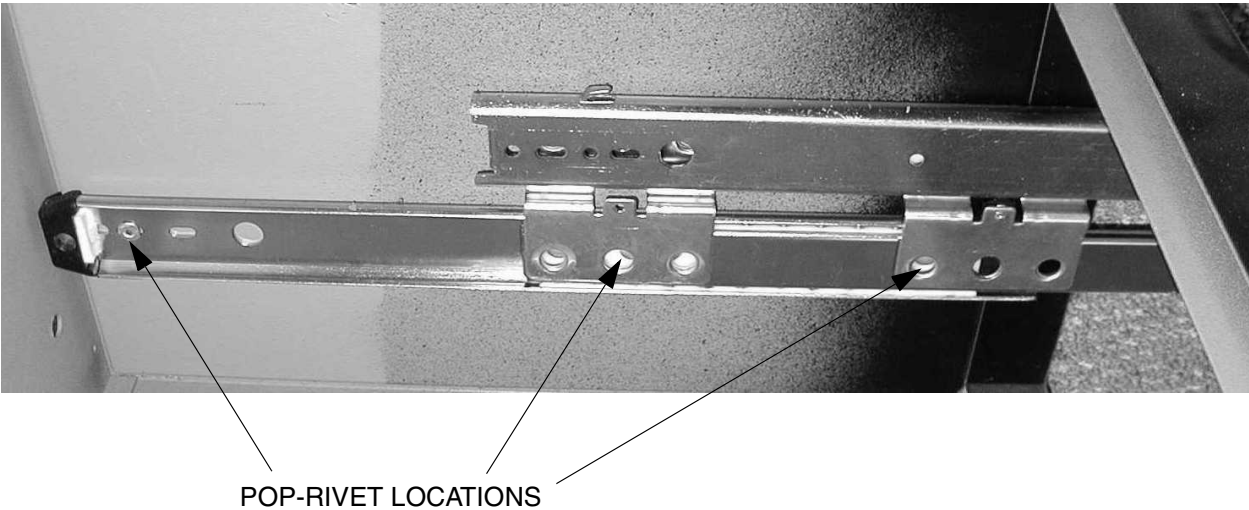

FIGURE 1. Grant Drawer Slide Removal
4. Locate the pop-rivets securing the slides that require replacement. See Figure 1. Using a 1/8" drill bit, drill out the heads of the pop-rivets. Use a larger drill if needed to drill out any remaining rivet stubs from the cabinet, and de-burr the rough edges.